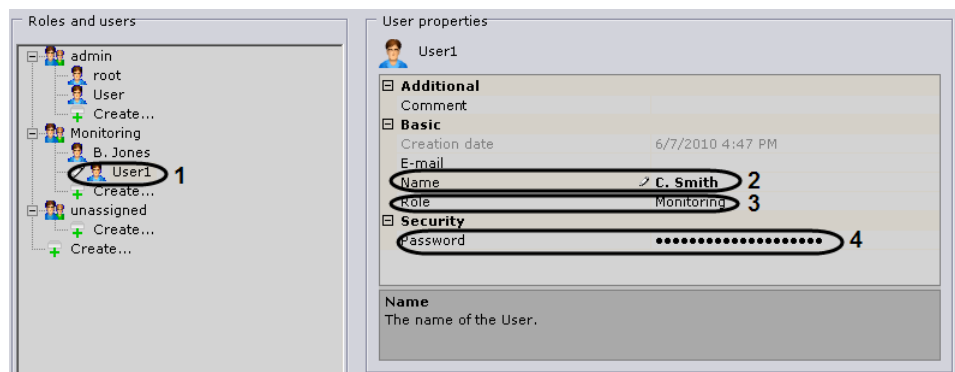

Fig. 6.10—5 Configuring a User
4. Enter the password into the **Security** configuration group (see Fig. 6.10—5, 2).